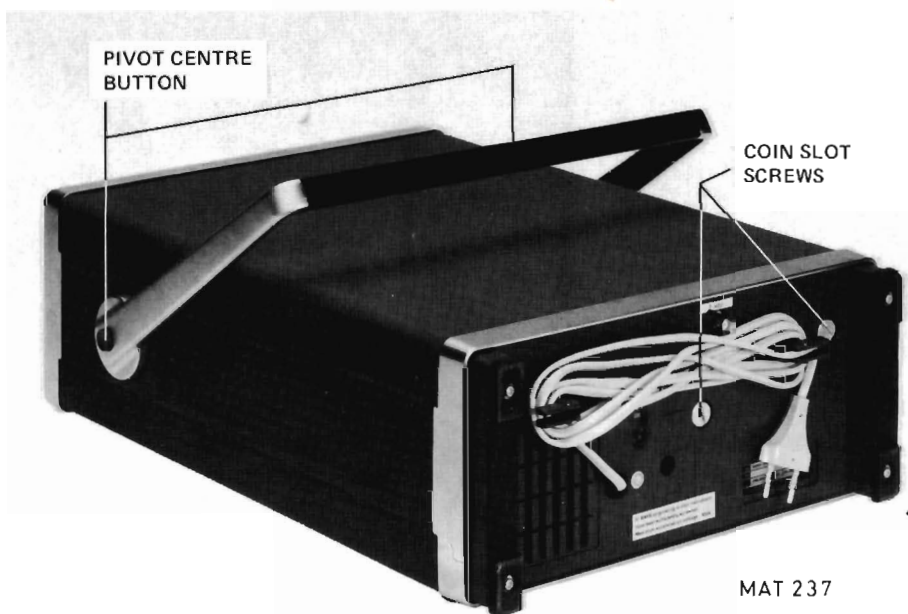

Fig. 3.1. Removing the instrument covers.
- Hinge the carrying handle clear of the front cover; to this end, push both pivot centre buttons (Fig. 3.1.).